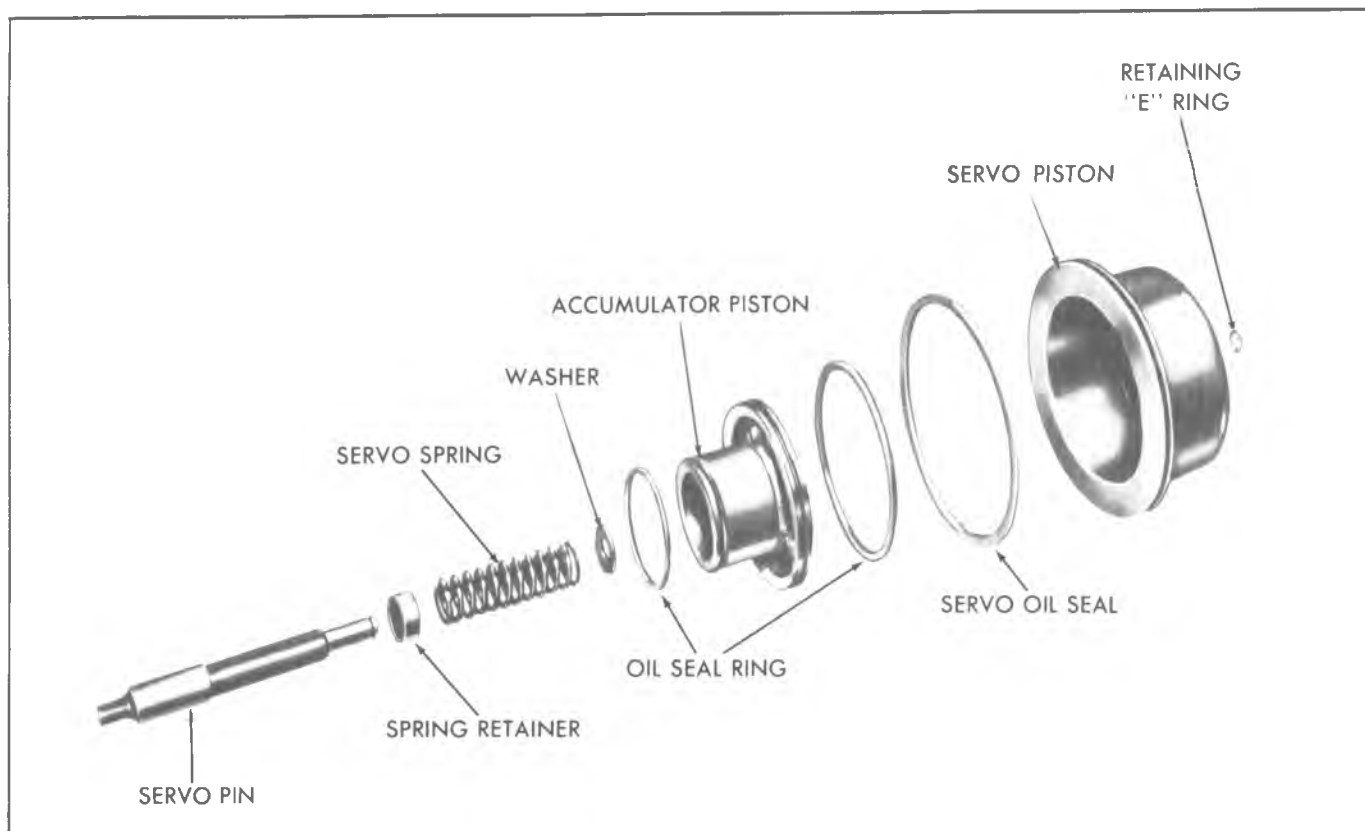

Fig. 7A-64C--Rear Servo and Accumulator Assembly--Exploded View
3. Remove rear servo piston and seal from servo pin (Fig. 7A-64C). (Exploded view.)